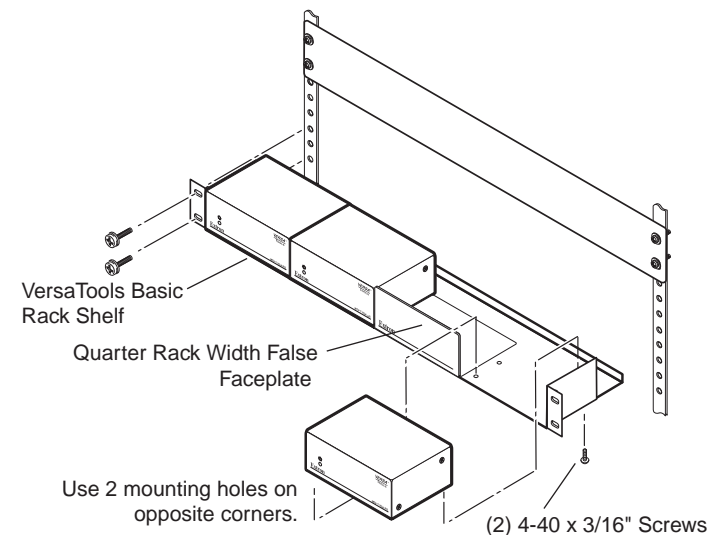

Figure 2 — Mounting the MTP on a VersaTools shelf
The following Underwriters Laboratories (UL) requirements pertain to the installation of the MTP transmitter or receiver into a rack (figure 2).
- RSF 123 VersaTools® 19" 1U rack shelf kit (part #60-190-20) (figure 2)